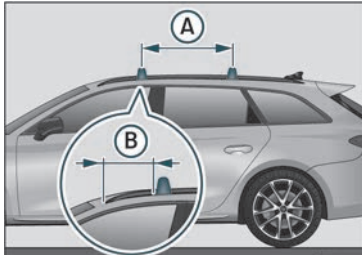

Fig. 136 Mounting points for the roof bars for the roof rack (Leon Sportstourer).
The crossbars are assembled on the roof railings >>> **Fig. 136**. The distance between cross bars (A) should be approx. 75 cm and the distance between the front bars and the front bracket of the side roof bar (B) should be 30 cm.